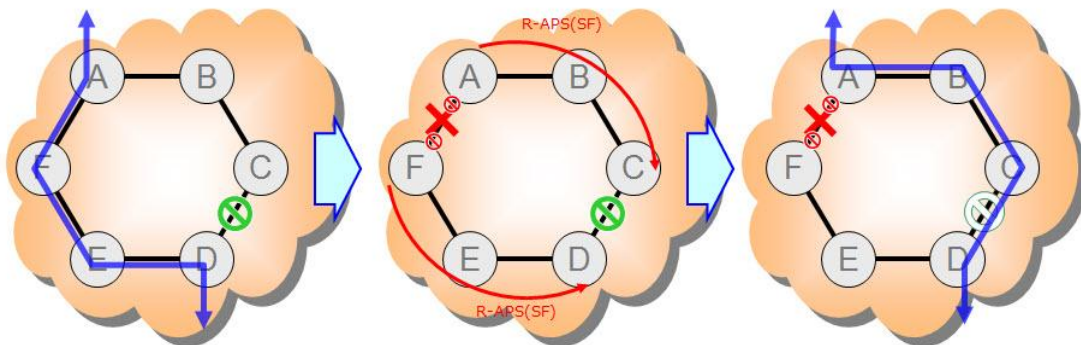

Figure 7-6 Basic ERP Protection Mechanism
Figure 7-6 illustrates the basic ERP protection mechanism. In normal ring operation, the RPL is blocked. In a failure condition, the failed link is blocked, R-APS(SF) messages are sent from the nodes adjacent to the failed links in order to unblock the RPL, and an FDB flush is performed on all ring nodes as necessary.